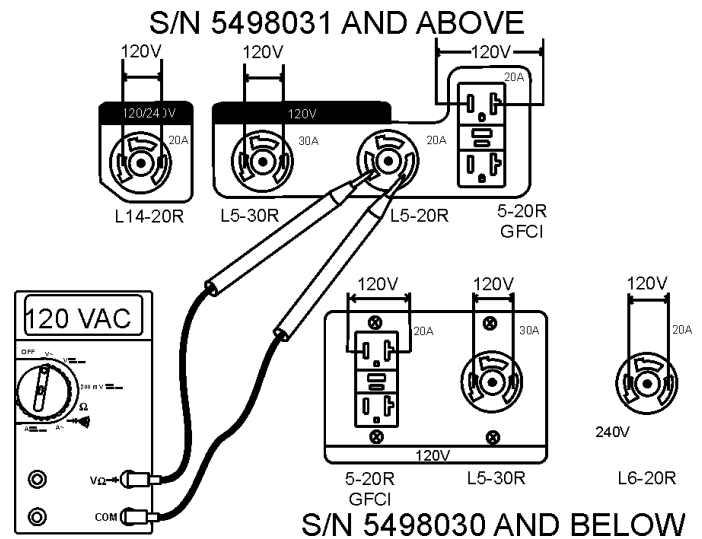

Figure 18. 120 VAC Receptacles
- If desired, verify with a voltmeter (Figure18) that 120 VAC is present at the GFCI receptacle and the twis-lock receptacles as shown below.